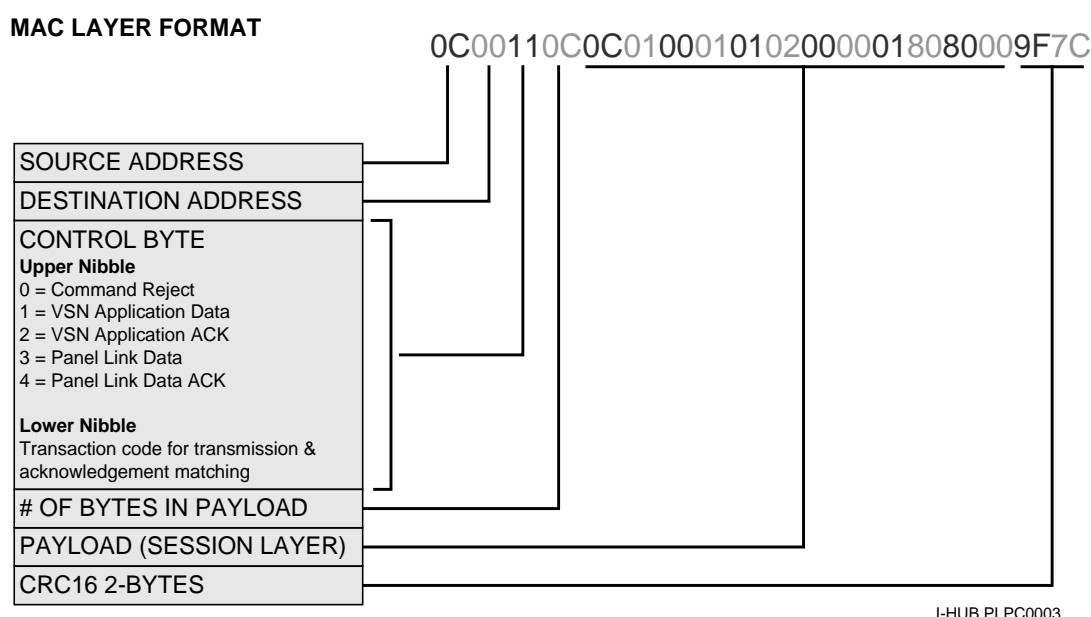
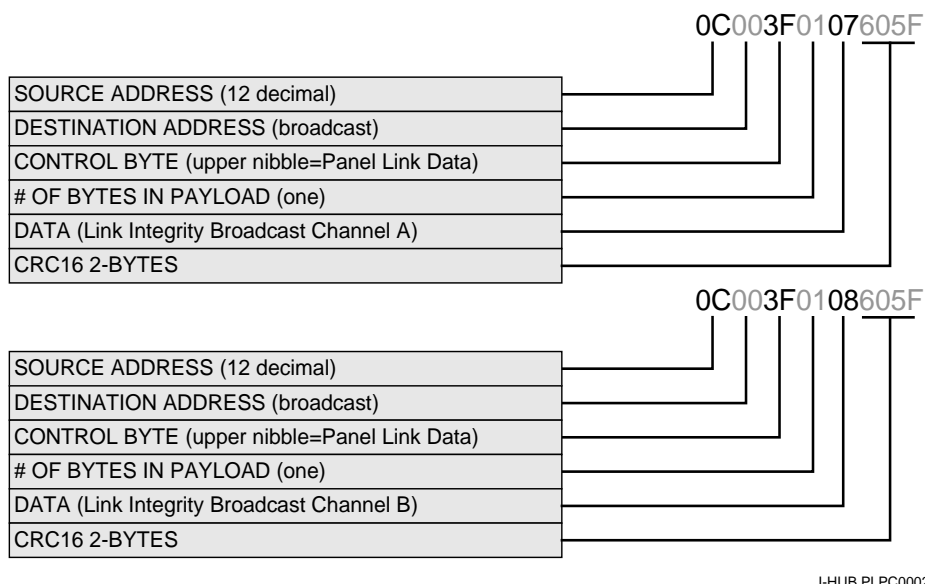

Figure 6.2.1 – MAC Frame Format
**Figure 6.2.3 – ACK Message Format**
Figure 6.2.1 shows an example MAC frame and its format. The output from the MAC Message Monitor is ASCII hex. Two digits are used to represent each byte of data. The example 'message' was taken from an I-HUB connected to a FIP with a SID of 12 (0Chex). It can be seen from Figure 6.2.1 that the Source Address is SID 12 (0Chex) and so originated from the FIP. As the Destination Address is zero (0), this message is a 'broadcast' message. Since the upper nibble in the control byte is one (1), the MAC layer message contains VSN (Vigilant System Network) Application Data. The lower nibble is the transaction number from the FIP. Each message originating from a FIP or I-HUB contains an 'incrementing' transaction number which is used for acknowledgement matching. The number of bytes in the payload portion of the message is 12 (0Chex)
An example Acknowledgement message is shown in Figure 6.2.3. The ACK message is generally the shortest message that will be observed using the MAC Message Monitor. The ACK is transported at the MAC layer level (in the control byte) and therefore the COUNT byte is zero.
As can be seen from Figure 6.2.3, the upper nibble in the control byte is 2. From the definitions for the Control Byte (shown in Figure 6.2.1) this indicates that the message is an ACK message. Note the source address is 00 (broadcast) as the original message was a broadcast (to 00), so to match the original message a source address of 00 must be used.